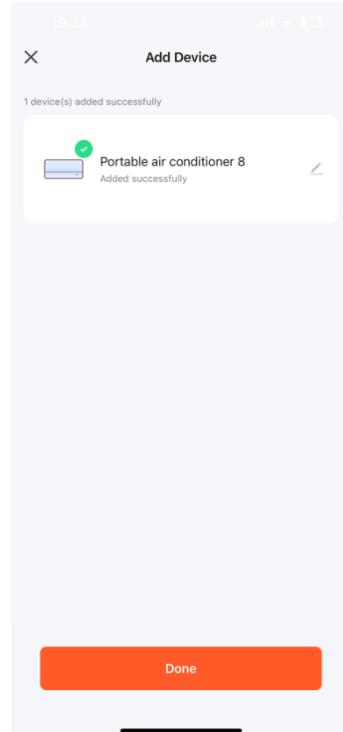

Fig.8
- 3.8.Now you can operate your device in the control interface. Tap buttons to set your appliance. (Fig.8)